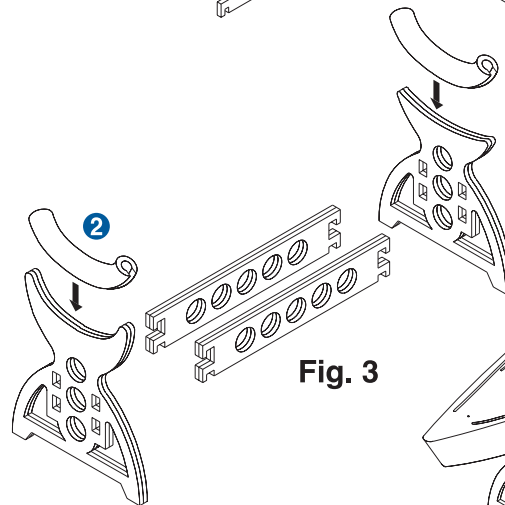

Fig. 3
2. Assemble the boat stand as shown in Fig. 3. You may glue the stand together permanently if you wish, or leave it collapsible for ease of storage.